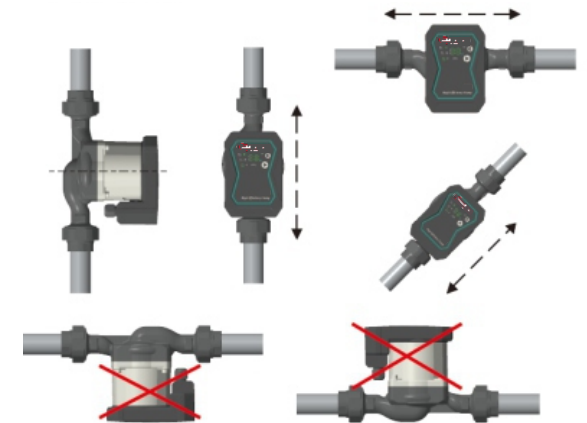

Figure 2
2. When installing, the motor shaft should be horizontal(as steps in Figure 2)